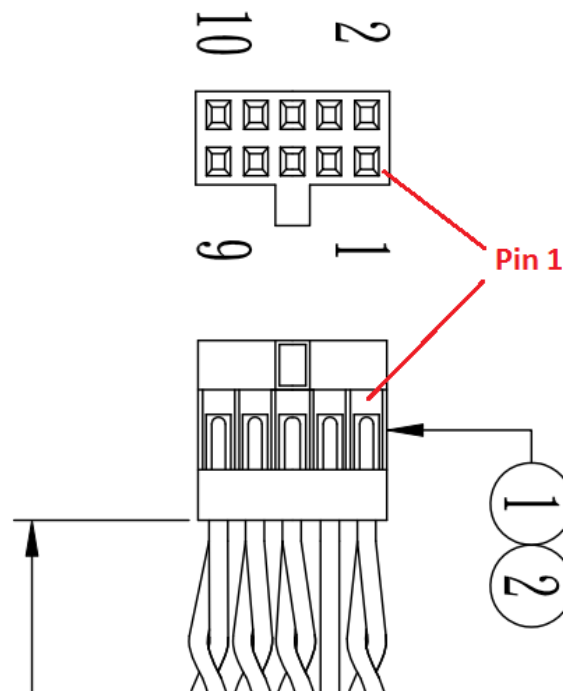

Figure 3-5 Pin 1 location of 2x5 cable
2. Make sure the pin 1 position of 2x5 cable, as shown in Figure 3-5.